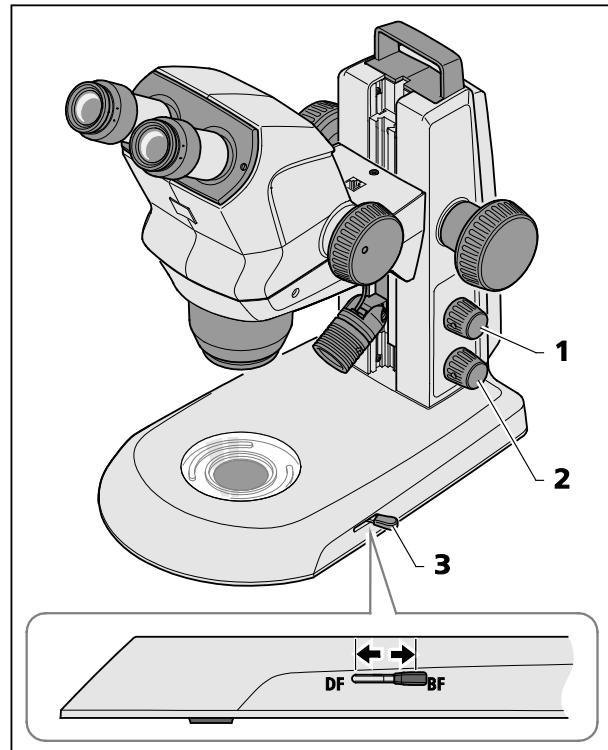

Fig. 19 Transmitted-light module in stand K EDU
- Switch transmitted-light illumination ON by pressing the lower knob (Fig. 19/2).
- Change over by adjusting the lever (Fig. 19/3) between the bright field and the dark field illumination.
- Front position: Dark field (DF)
- Rear position: Bright field (BF)
Press the upper button (Fig. 19/1) to blend in reflected light (see Section 4.2 on page 26).
Transmitted light not switched ON or dimmed.	Press and turn rotary / push-button Fig. 19/2 to switch illumination ON and to increase its intensity; see Section 4.3 on page 29